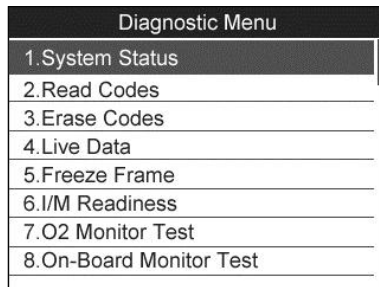

Figure 5.3
- 7) View a summary of system status (MIL status, DTC counts, Monitor status) on screen. (Figure 5.1) Press **OK** button for **Diagnostic Menu** (Figure 5.3) to come up.
- 1) Use **UP/DOWN** scroll button to select **Read Codes** from **Diagnostic Menu** and press the **OK** button. (Figure 5.3)
- 1) Use the **UP/DOWN** scroll buttons to select **Erase Codes** from **Diagnostics Menu** and press the **OK** button. (Figure 5.3)
- 1) To view live data, use the **UP/DOWN** scroll button to select **Live Data** from **Diagnostic Menu** and press the **OK** button. (Figure 5.3)